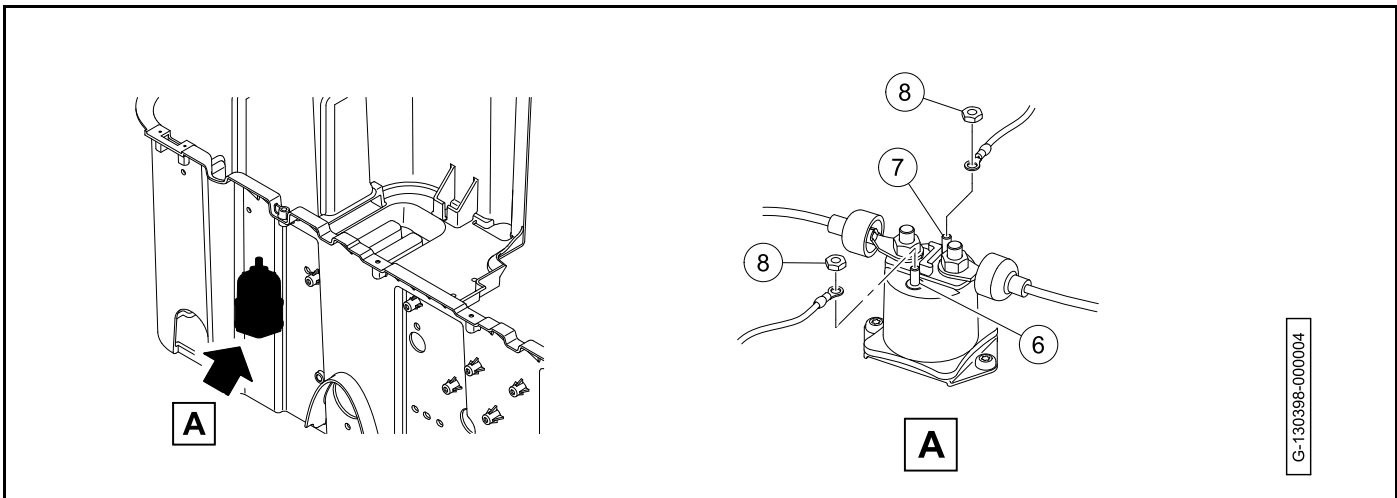

Figure 19-21 Solenoid Small Posts
4. Connect the red wire to the large post (4) on the solenoid.
5. Install the nuts (5). Tighten the nuts to 59 lb·in (6.7 N·m).
6. Connect the blue wire to the small post (6) on the solenoid (**Figure 19-21, Page 19-20**).